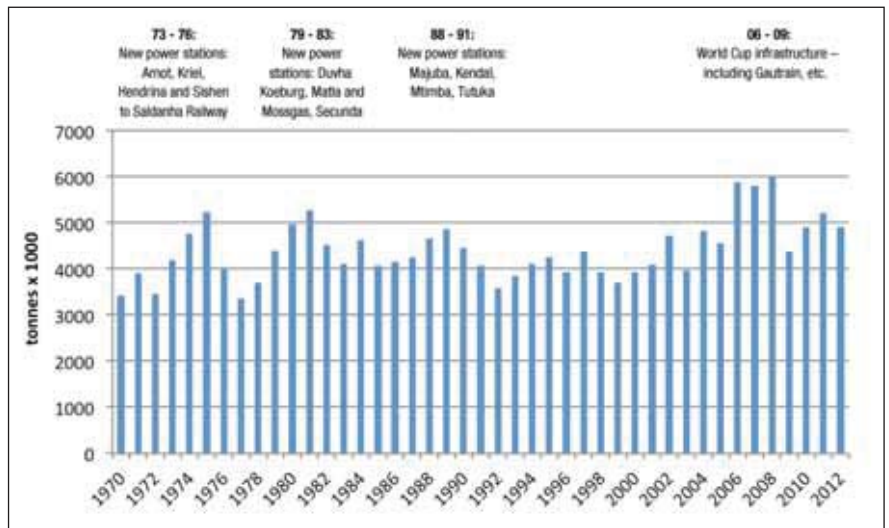

Figure 2. Apparent domestic demand of steel in South Africa since 1975.
trolled by factors beyond the industry's control, namely Industrial Production (IP) and Gross Capital Formation (GCP) previously known as Gross Domestic Fixed Investment (GDFI). Over the years IP and GCF growth rates have been low for extended periods. Flurries have resulted in kicks in steel sales but most increases of activity can be attributed to project activity within the country as clearly shown in *figure 2*.